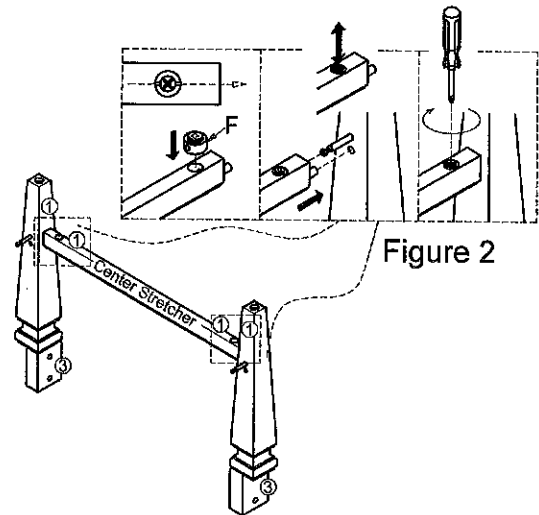

Figure 2
2. Attach stretcher (center) on the leg (center) by using Cam Lock Nut (F) . (See Figure 2).